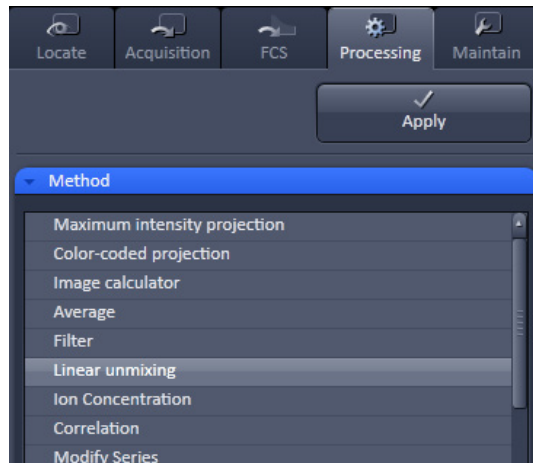

Fig. 430 Linear Unmixing in the Processing tab
- To open the **Linear unmixing** tool, click on **Linear unmixing** in the **Processing** tool list in the **Processing** tab (Fig. 430).